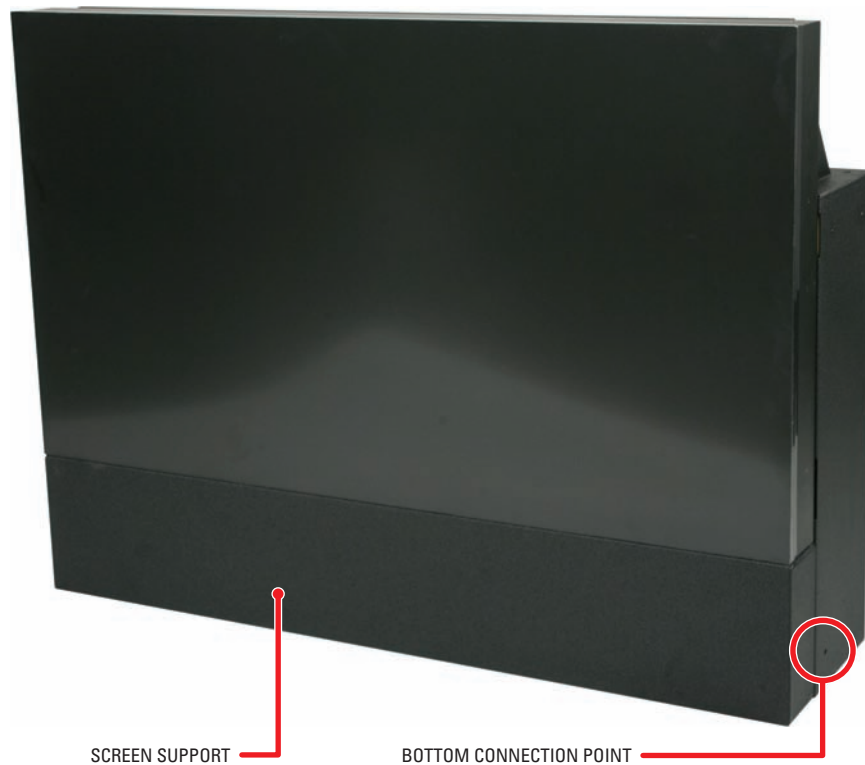

Figure 1. Mounted Screen Support and Bottom Connection Point
Attach the screen support to the front edge of the chassis with the supplied screen support bolts. The screen support mounts only one way. It incorporates a stop (rest) for the screen. Refer to Figure 1.
1. Set the first row of PMCD750 units side by side without the screens. Bolt them loosely together through the bottom connection points with the 1/4-20 x 3.5-inch bolts, washers, and wing nuts. Refer to Figure 1.
2. Attach the screen supports to the front edge of each chassis. Refer to Figure 1.
4. Bolt the PMCD750 units together through the bottom connection points the same as the first row. Refer to Figure 1.